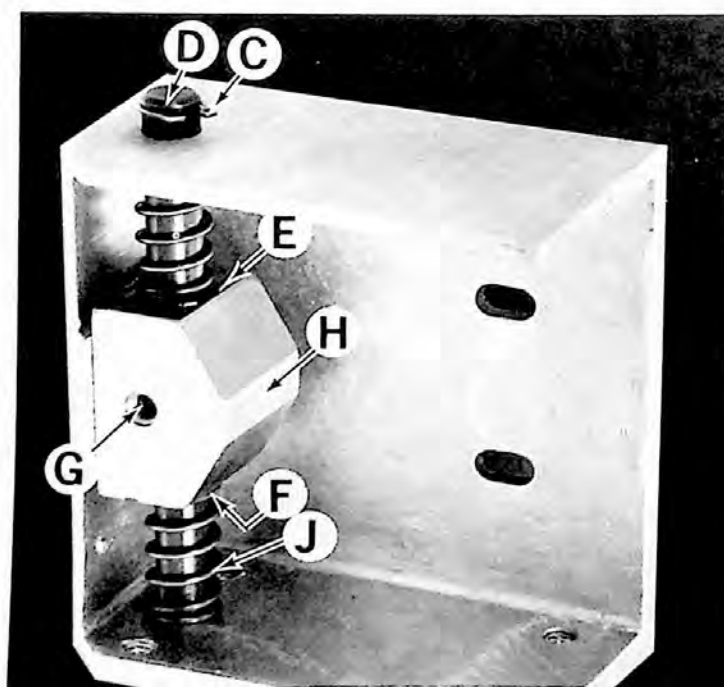

Figure 54 — Micro Switch Mount and Trip Screw
- Remove retaining ring "C", Figure 54. Push trip screw "D" down inside mount and remove retaining ring "F". Loosen set screw "G", remove trip screw "D", cam "H" and springs "J".
- (a) Replace trip rod "D", Figure 54, in mount while replacing springs "J", three retaining rings and cam "H". Tighten set screw "G".